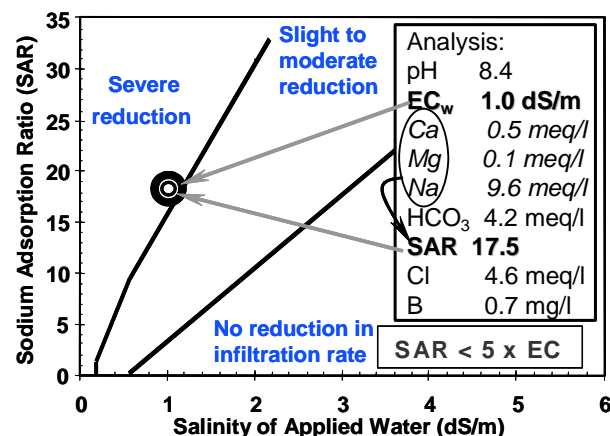

Fig. 2. Estimating potential infiltration problems and determining amendment options from an irrigation water analysis.
A partial water analysis is shown in Figure 2. This water presents absolutely no salt or ion tolerance problems for the most crops, but the high SAR, especially given the high pH and bicarbonate levels, indicate significant infiltration problems, as indicated by the large black circle in the figure. This means salts can accumulate with little or no leaching and cause problems to sensitive crops like almonds. To achieve good infiltration some of the Na needs to be offset with Ca. You want to treat the water by injecting gypsum. Four steps are required to calculate the right rate:
4. Locate the intersection of the new SAR and EC on the infiltration chart (as shown in Figure 2).
**Water-run acid:** The water used for the Fig. 2 gypsum example would be a good candidate for acidifying amendments. Starting in the late 1950's sulfur burners were used to meter ground elemental sulfur into a small furnace. The burning produces sulfur dioxide which combines with water trickled through the machine to make sulfuric acid which is then injected into the irrigation water. In recent years, better pumps and safeguards have been developed to inject concentrated sulfuric acid directly.